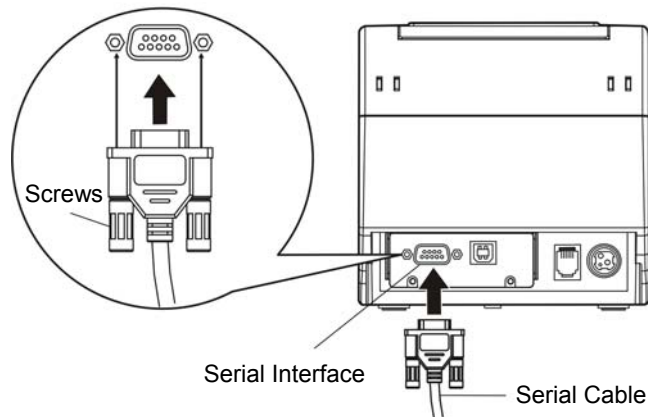

Figure 2-5 Connecting the serial cable
1. Make sure the computer and the printer are both turned off, connect the serial cable to the connector of the printer. Tighten the screws on both sides as shown in Figure 2-5.